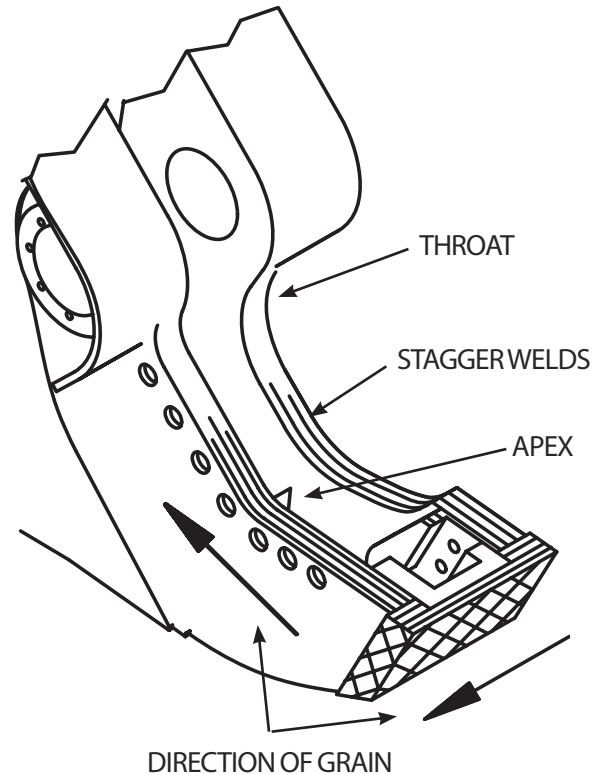

FIGURE 5-6
1. ALWAYS hardsurface in the direction of the grain of the steel (see figure 5-6).